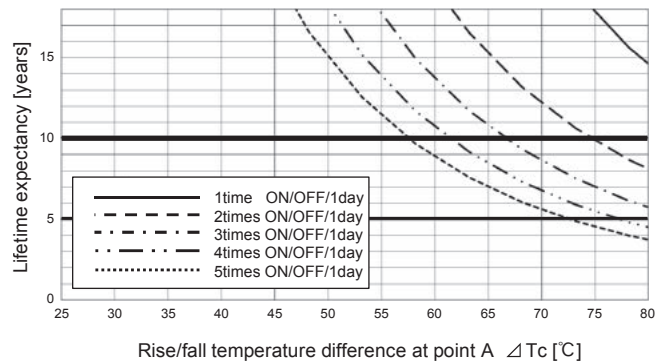
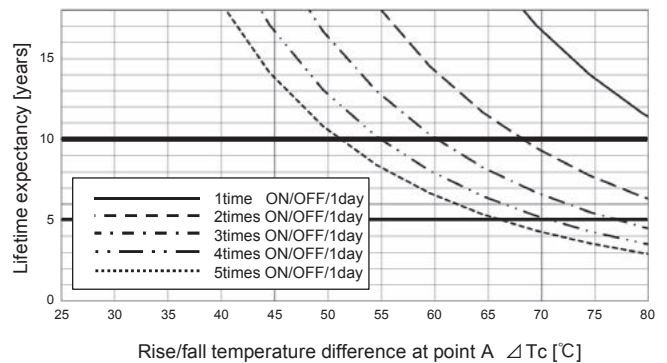
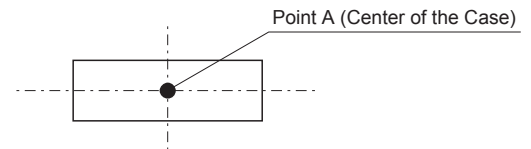

Fig.8.1 Lifetime expectancy against rise/fall temperature difference (MG1R5)
Fig.8.2 Lifetime expectancy against rise/fall temperature difference (MG3)
Fig.8.3 Temperature Measuring Point on the case (Top View)
- Product lifetime expectancy depends on case temperature difference (T_c) and number of cycling in a day is shown in Fig.8.1, Fig.8.2 (It is calculated based on our accelerated process test result.) If case temperature changes frequently by changing output load factor etc., the above the lifetime expectancy design should be applied as well. And point A which is shown in Fig.8.3 must keep below 110°C.
- The warranty period is basically 10 years, however it depends on the lifetime expectancy which is shown in Fig.8.1, Fig.8.2 if it is less than 10 years.